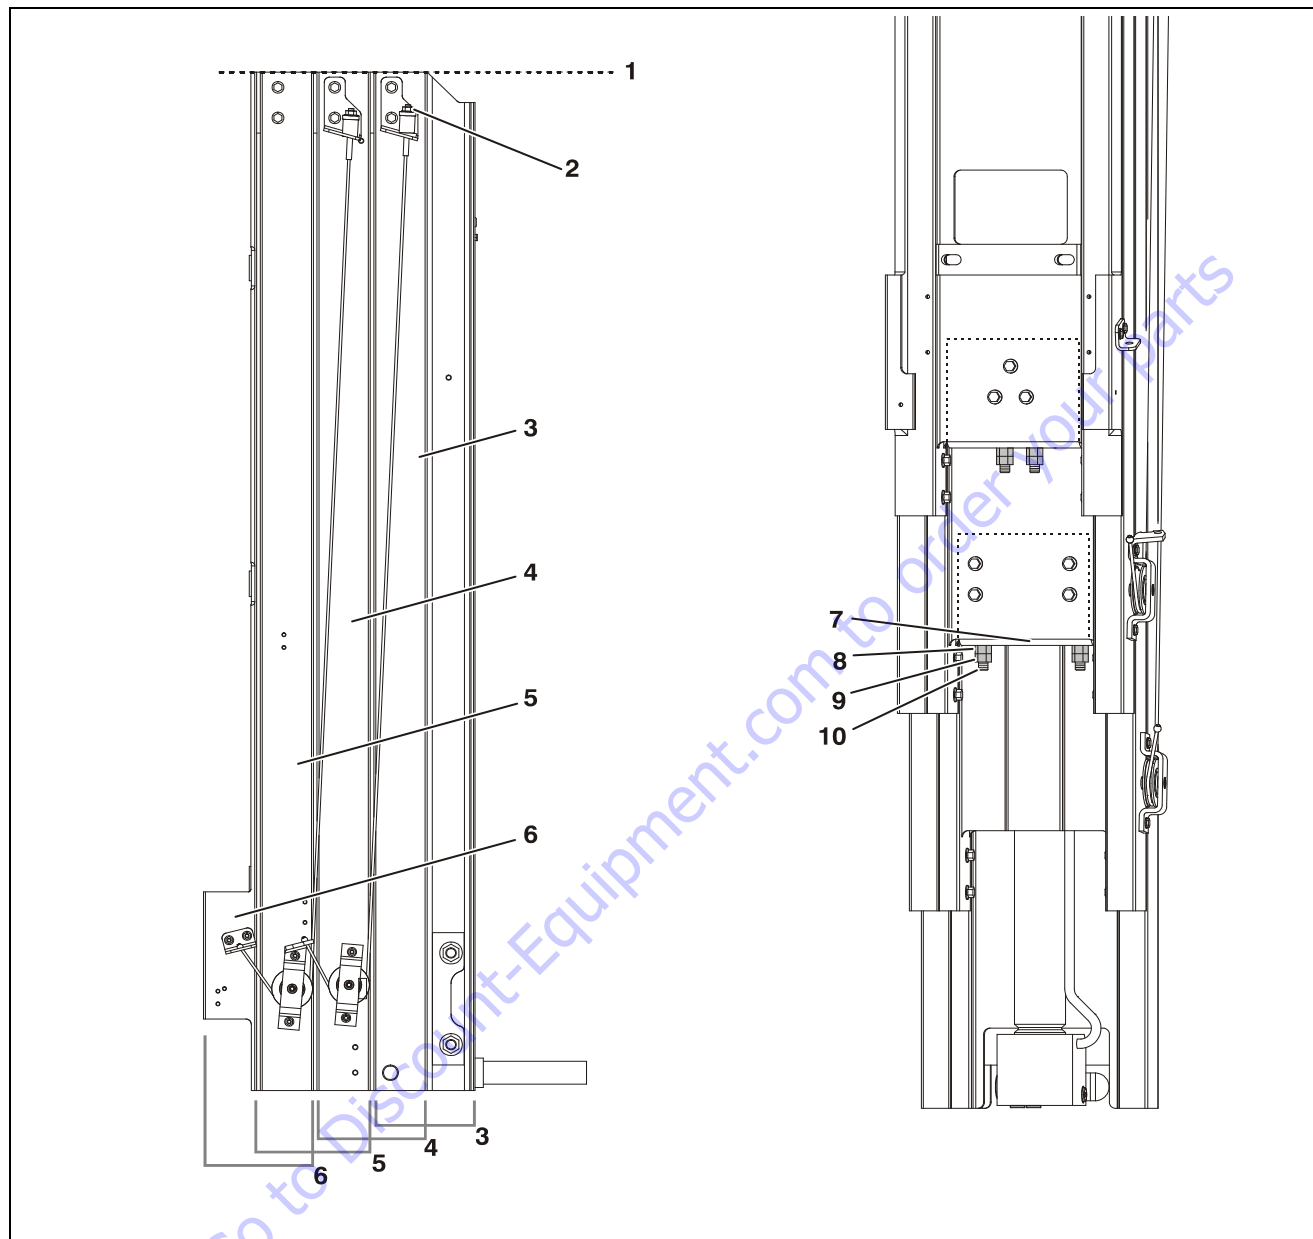

Figure 5-9. Mast Chain and Sequence Cable Adjustment Components
This procedure will ensure equal load distribution between the individual chains of a mast section chain sets. Refer to Figure 5-9..
3. Have the operator exit the platform, then check the side profile of the top of the mast. The mast sections should all be even at the top and not stepped. (Refer to Figure 5-9.)
8. Fully retract the mast all the way and check if the top of the mast sections appear as shown in Figure 5-9.